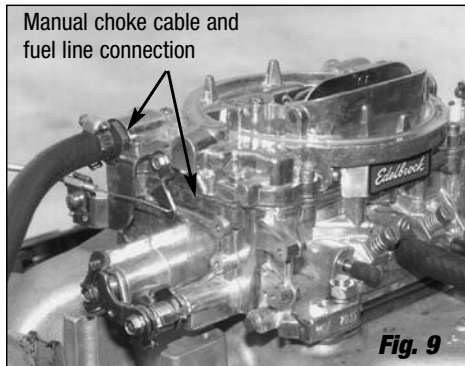

Fig. 9
- Connect manual choke cable to the provided lever attachment point and cable mounting bracket (**See Fig. 9**) (manual choke models).